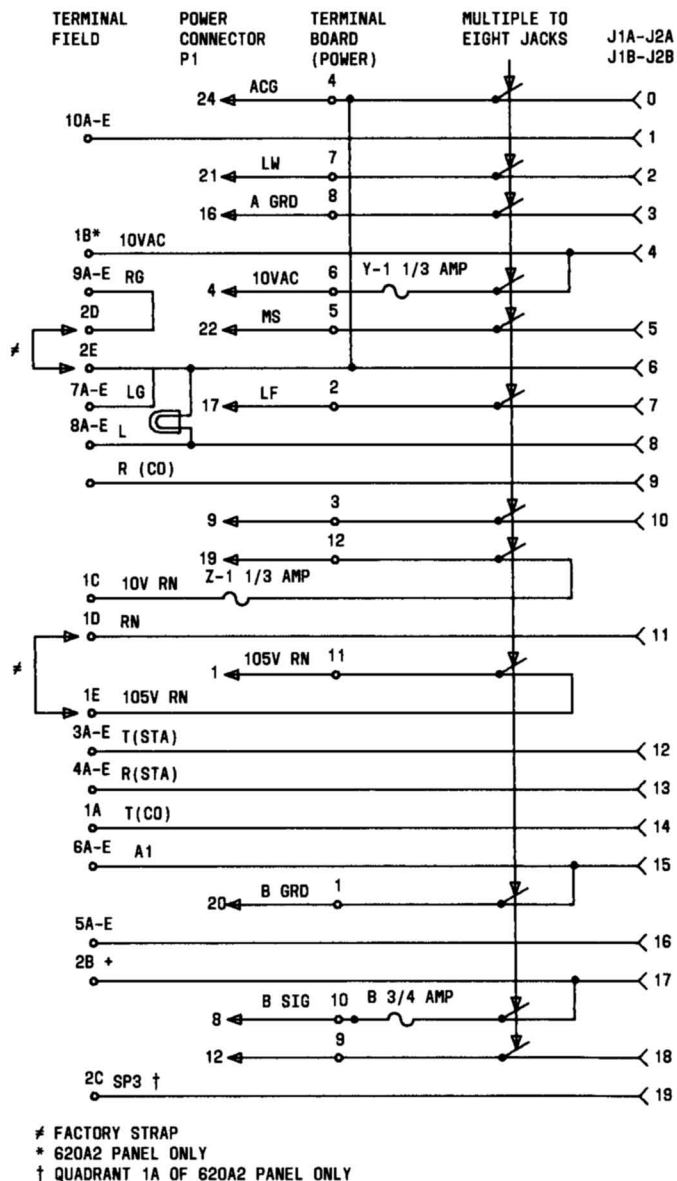

Fig. 15—620A (MD) or 620A2 Modular Panel Maintenance Diagram
- Continuity testing (913-/914-type connectors to 66-type terminal connections). Consult Fig. 15, 16, and 17.◆